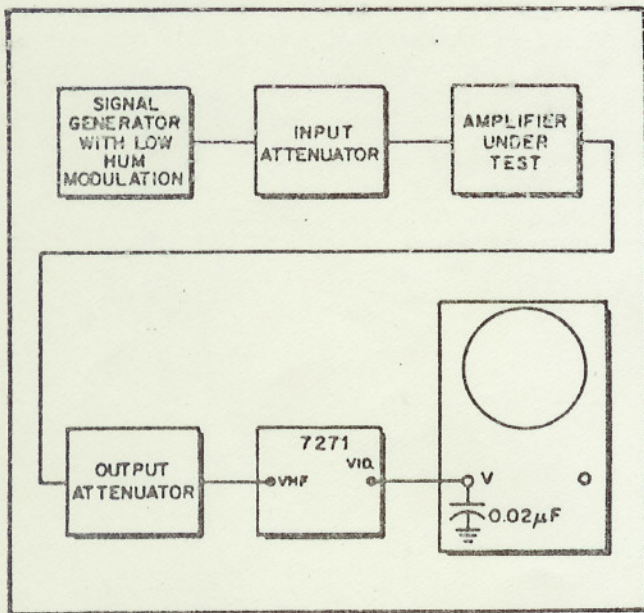

Fig. 3-6. Setup for Measuring Hum Modulation
1. Connect the equipment as diagrammed in Fig. 3-6. Use a General Radio Type 274-MB twin banana plug at the vertical input of the oscilloscope and